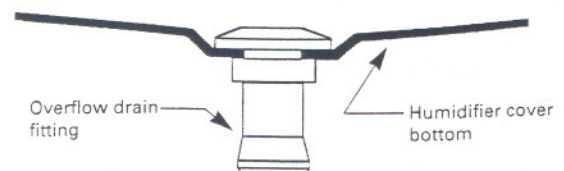

FIG. 7
2. Mount the **overflow drain fitting** onto the bottom of the humidifier cover by inserting the tail of the fitting into the double "D" shaped hole in the **cover bottom**. Using a coin or a screwdriver, turn the fitting one quarter turn (90°) in either direction to bind it onto the cover. (Fig.7)